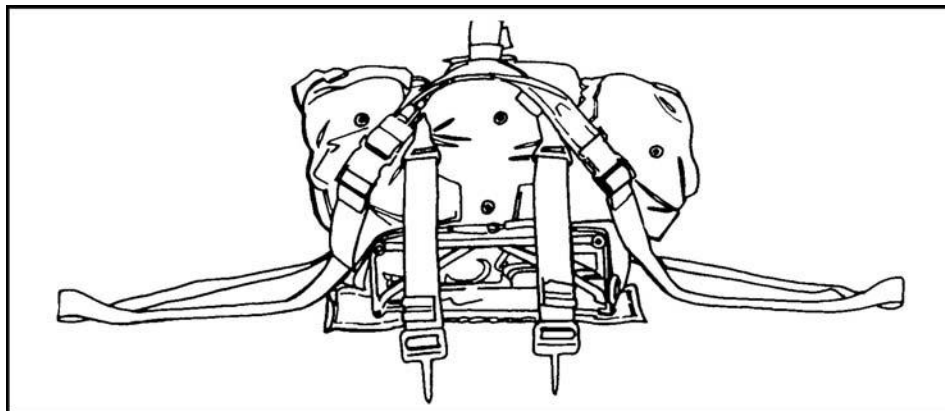

Figure 12-11. Leg straps routed.
d. Route the equipment retainer straps through their appropriate friction adapters and form a two- or three-finger quick release. S-roll the excess webbing and secure it with two turns of the retainer bands. Do not secure the excess webbing to the quick release. Route the adjustable leg straps in the most direct route around the pack and attach the male portion of the leg strap release assembly to the female portion of the leg strap release assembly. Fold the excess webbing and secure it in the webbing retainer. Attach the HPT lowering line the same as with the standard H-harness (Figure 12-11).